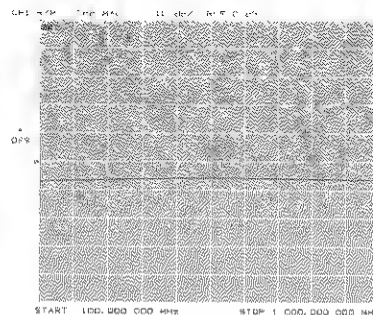

Figure 8. Plot of swept IF/fixed LO conversion loss of a mixer.
11. Since the mixer's RF input power was chosen to be 0 dBm and the loss due to the IF components was removed, the resulting display shows the swept IF conversion loss of the mixer versus IF frequency. A plot of this is shown in figure 8.